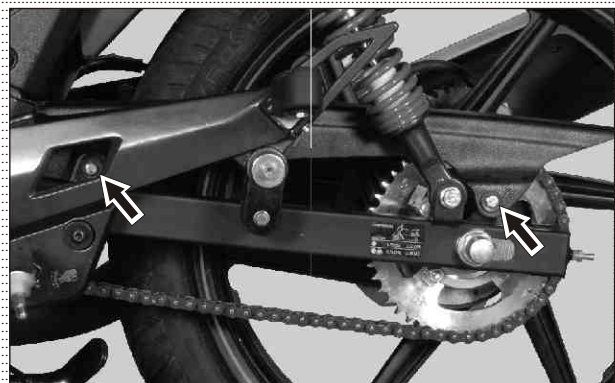

Fig. 2.98
- Loosen hex bolts (M6x12 - 2 nos.) from cover complete chain and take out cover complete chain. (Fig. 2.98)